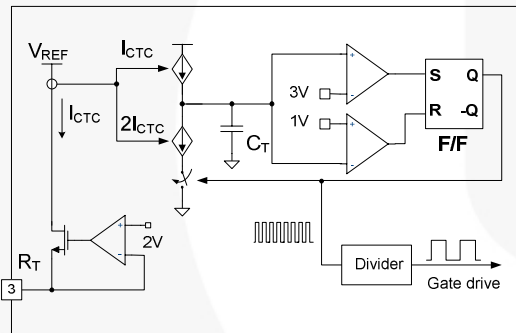

Figure 16. Current Controlled Oscillator
**2. Internal Oscillator:** FSFR-US series employs a current-controlled oscillator, as shown in Figure 16. Internally, the voltage of  $R_T$  pin is regulated at 2V and the charging / discharging current for the oscillator capacitor,  $C_T$ , is obtained by copying the current flowing out of the  $R_T$  pin ( $I_{CTC}$ ) using a current mirror. Therefore, the switching frequency increases as  $I_{CTC}$  increases.